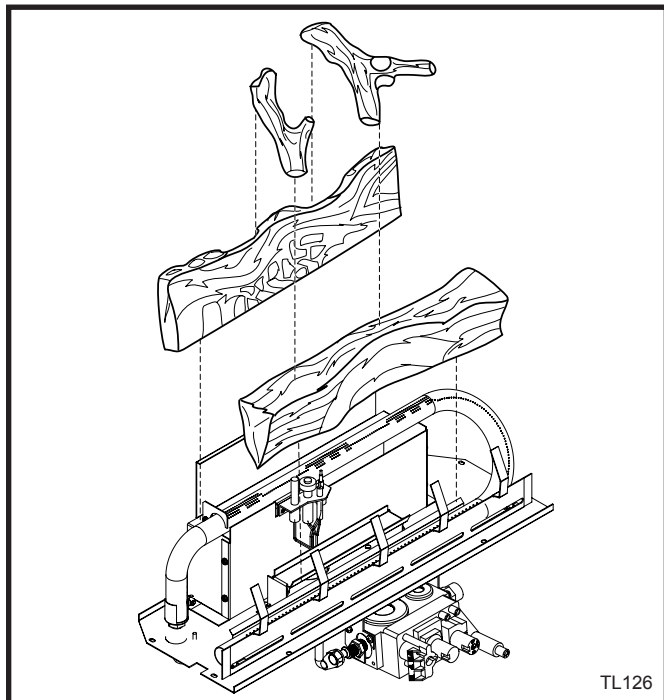

Fig. 42 33RDVN log placement.
5. Place the top logs onto the locator notches. Ensure that the logs are secure. (Fig. 42)